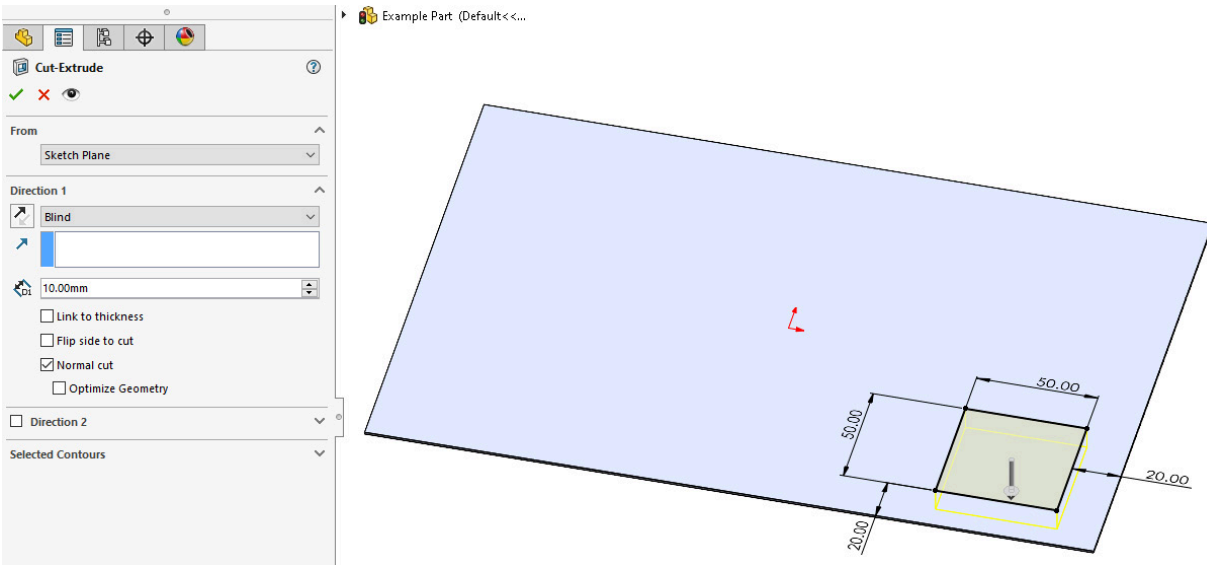

Figure 3.1: Creating an Extruded Cut
4. Select **Extruded Cut** either from the **Features** tab or from the **Sheet Metal** tab or toolbar, as illustrated in (Figure 3.1):